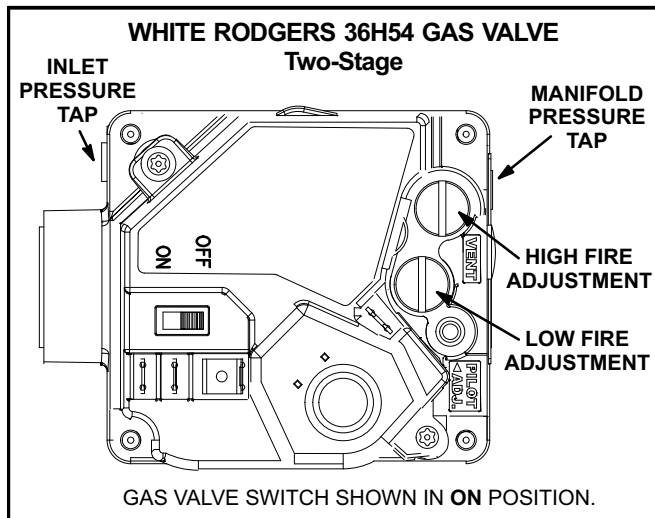
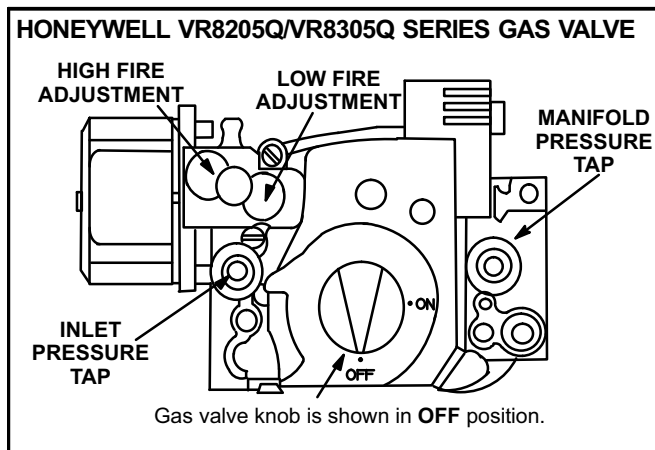

FIGURE 26
FIGURE 27
Gas Valve Operation for Honeywell VR8205Q / VR8305Q and White Rodgers 36H54 (figure 26 and 27)
- 5- Turn gas valve switch to **OFF**. See figure 26. On Honeywell VR8305Q gas valves, turn the knob on the gas valve clockwise ➡ to “OFF”. Do not force. See figure 27.
- 6- Wait five (5) minutes to clear out any gas. If you then smell gas, **STOP!** Immediately call your gas supplier from a neighbor's phone. Follow the gas supplier's instructions. If you do not smell gas, go to the next step.
- 7- Turn gas valve switch to **ON**. See figure 26. On Honeywell VR8305Q gas valves, turn the knob on the gas valve counterclockwise ⬅ to “ON”. Do not force. See figure 27.